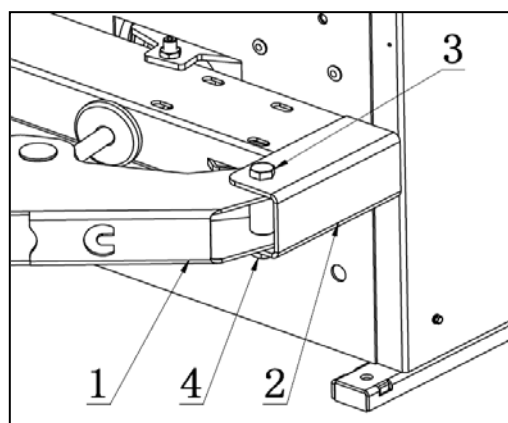

FIG 8
- a) As shown in FIG8, align the installation hole of bead breaking arm (FIG8-1) to the installation hole of bead breaking arm bracket (FIG8-2). Plug in the pin shaft screw (FIG8-3) and then tighten the lock nut (FIG8-4).